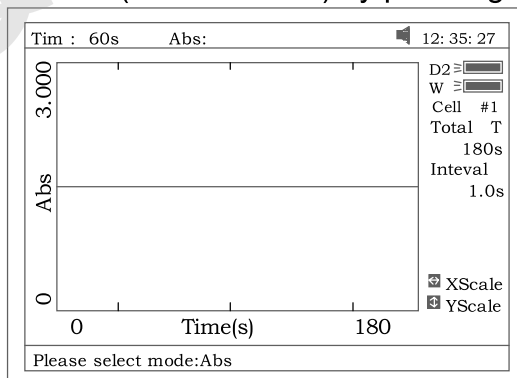

Fig 54
2. Select the test mode (“Abs” or “%T”) by pressing **[F2]** (Fig 54).